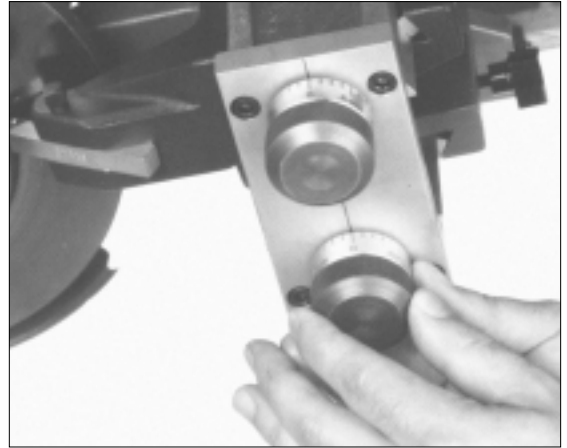

Figure 16
10. Turn the (blue) depth-of-cut knob clockwise to advance the outboard cutter until it lightly contacts the brake surface. Holding the knob still, rotate the micrometer dial to zero, Fig. 16.